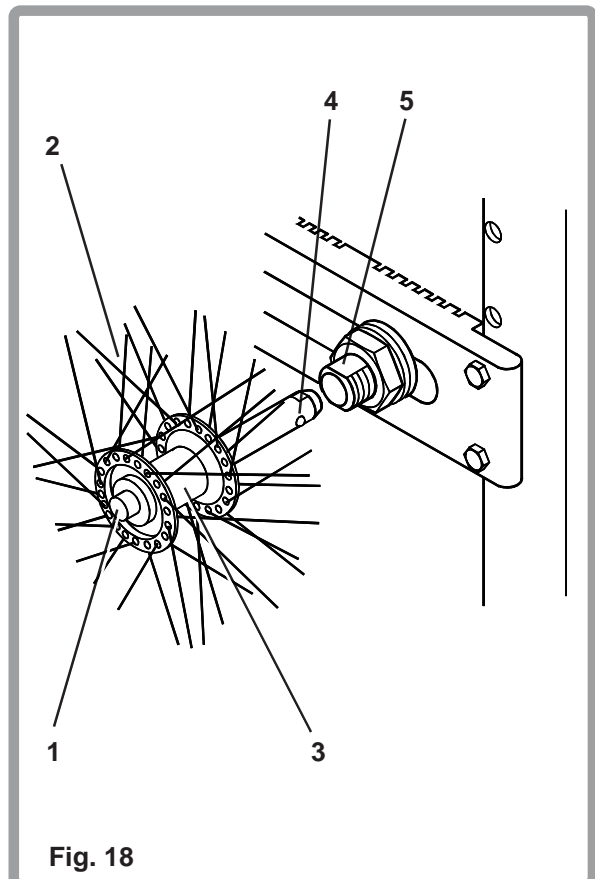

Fig. 18
To remove quick-release axles (Fig. 18), press the quick release button (1) on the axle with your thumb whilst holding the wheel through the spokes (2) surrounding the hub (3). With the button pressed and the wheel gripped firmly, withdraw the axle and hub together. To place the wheel back on the chair, press the quick-release button (1) on the axle and slide it, with the wheel attached, into the axle sleeve until it locks. Ensure the two locking pins (4) are showing on the inside of the receiver (5).